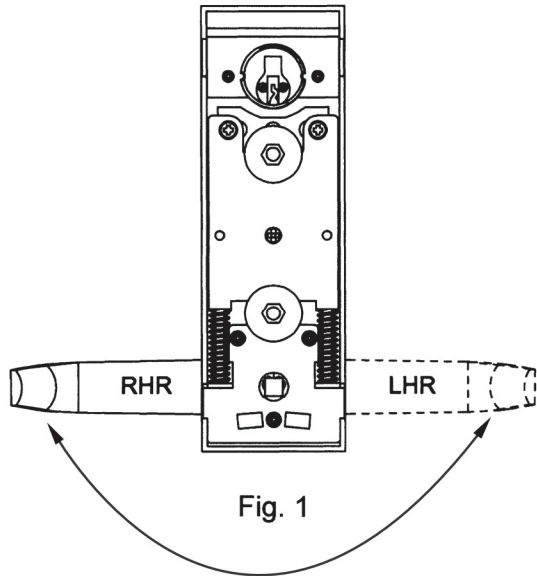

Fig. 1
1. For lever type handle, rotate lever handle to right or left direction to match desired door handing (see Fig. 1)